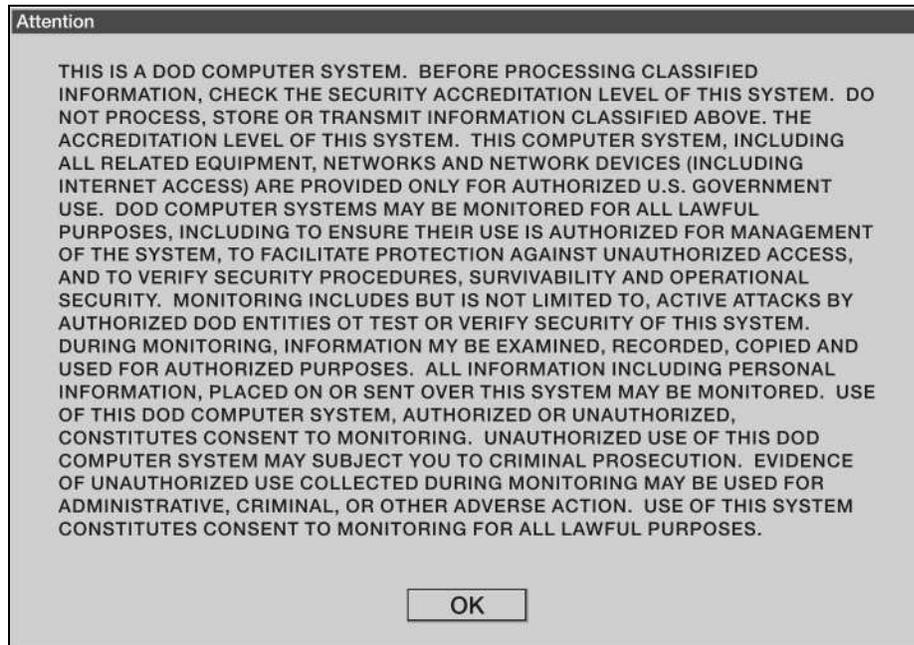

Figure 3-28. Security Warning
- (1) Press the power switch on the laptop computer. Wait for the computer to load/initialize software.
- (2) Read over security window and click OK if you agree to the terms (see Figure 3-28).
- (3) When prompted, press CTRL-ALT-DEL to login.